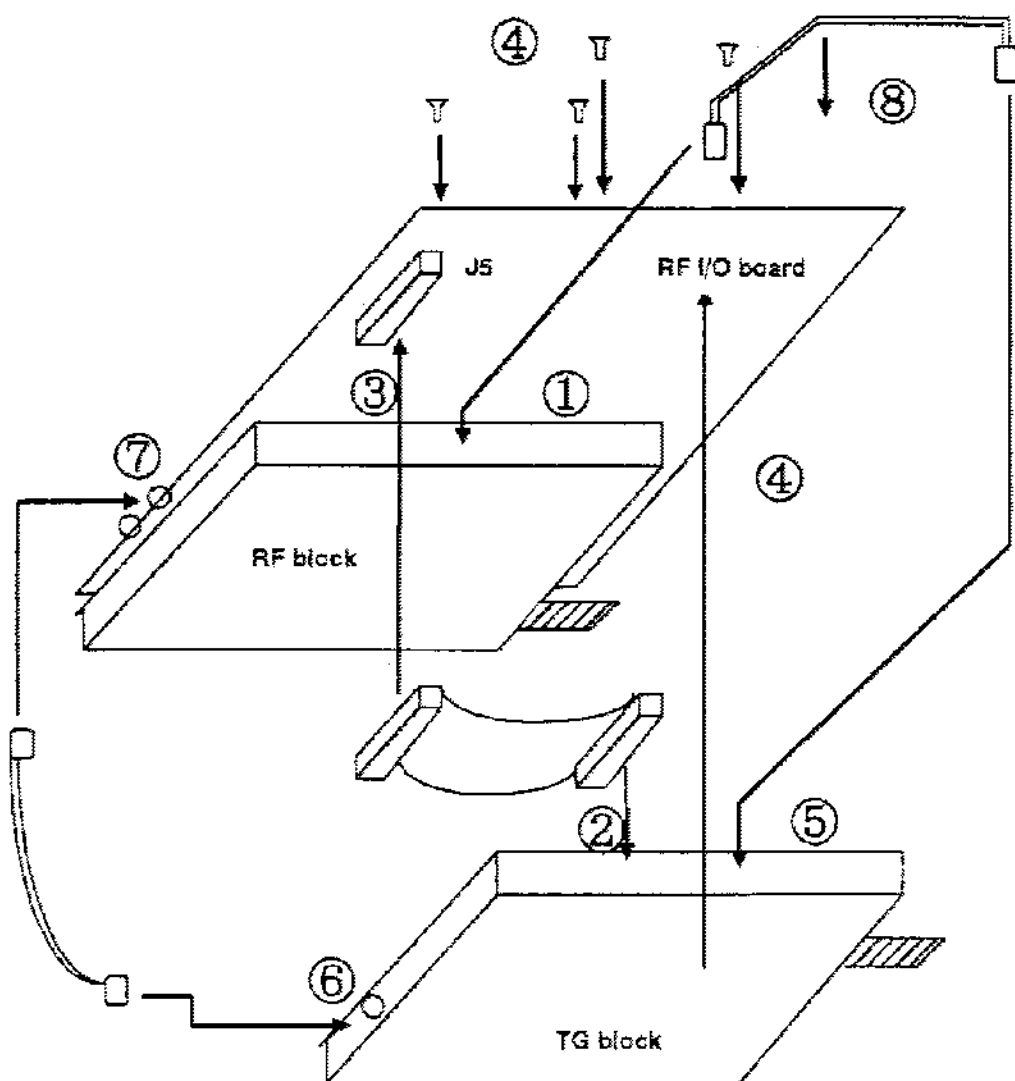

Fig.14
Refer to Fig.14, Process number such as ①, ② are same as number of Fig.14